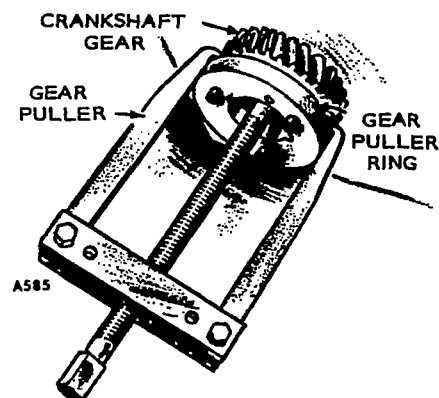

FIGURE 84. REMOVING CRANKSHAFT GEAR
2. Pull off crankshaft gear, Figure 84. It has two 1/4-20 UNC tapped holes for attaching a gear pulling ring (ONAN tool 420-0275). Use care not to damage teeth if gear is to be reused.